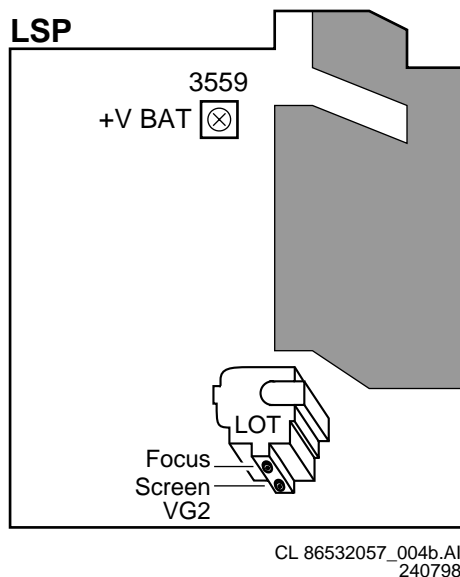

Figure 8-1
- Using potentiometer R3559 (diagram A1) adjust the VBAT supply voltage to  $+141\text{V} \pm 0\text{V5}$ . (see Fig. 8.1)